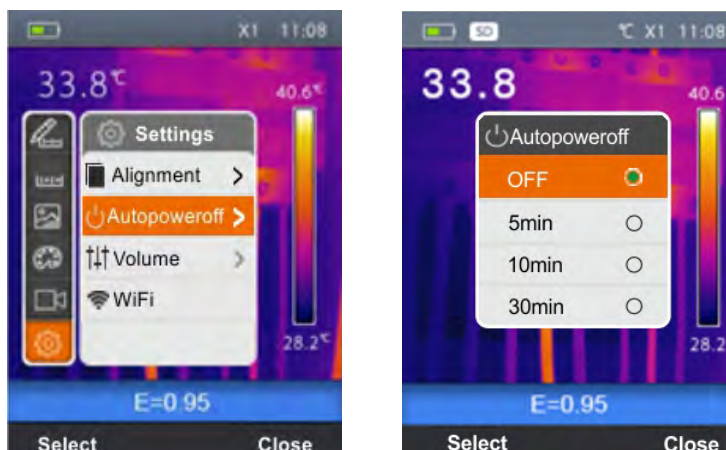

Fig. 14: Setting the alignment distance
1. Select the item “Auto power-off” using the keys \oplus or \ominus and press the key . The screen Fig. 14 – Right side is shown on the display